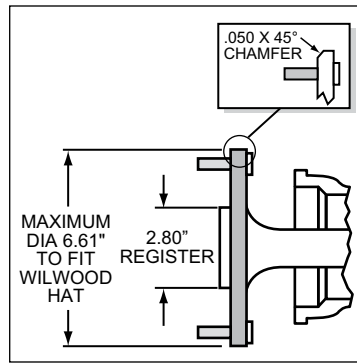

Figure 3. Axle Flange Maximum Dimension
- Axle center register diameter is 2.80", Figure 3. This kit uses Wilwood's removable center register adapters. Rotors can either be centered on the axle register, i.e. *register-centric* or centered on the wheel studs, i.e. *stud-centric*. Due to variations in wheel stud final diameters, *register-centric* centering can be a more accurate method of centering the rotor to the axle. Wilwood offers various diameter adapters for purchase in addition to the ones supplied in this kit, see Table 1.
- Maximum axle flange diameter must be no larger than 6.61" w/.050" x 45° chamfer, Figure 3.